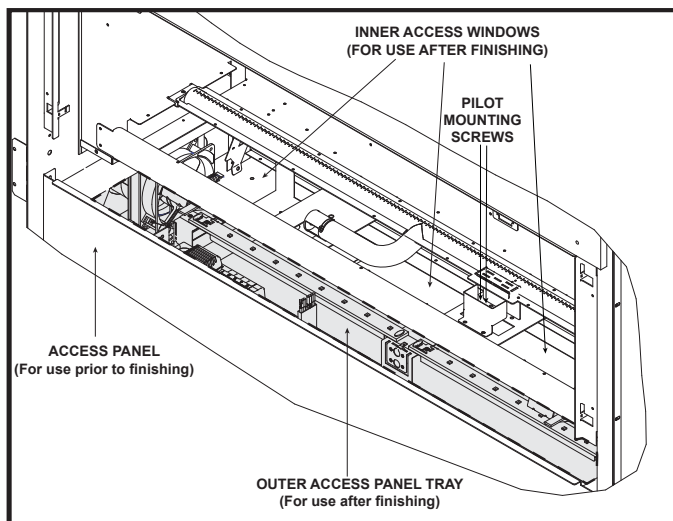
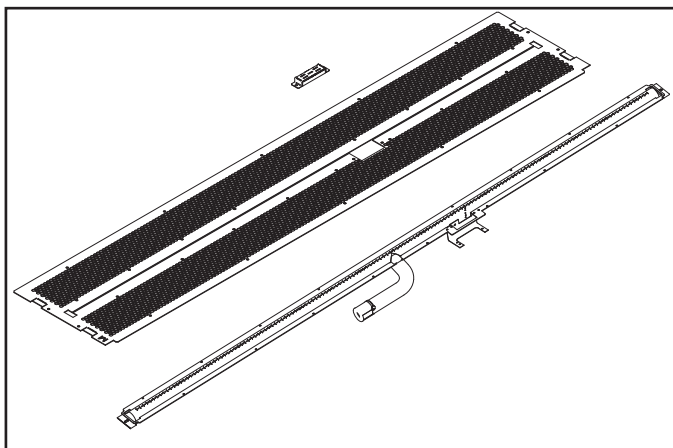

Figure 9.2 Gas and Electrical Access
Figure 9.3. Base Pan with Burner and Pilot Cover
The lower access cover panel is removable if finishing material is not installed. See Figure 9.2.
6. There are three access windows located on the interior of the firebox bottom. See Figure 9.2. Remove screws and plate to access the manual shutoff valve included with this fireplace.
2. Remove the base pan. It is attached with 14 screws to the interior firebox bottom and with 19 screws to the burner assembly. If your appliance is a model that has the glass rock media, you must also remove the pilot shield cover at this time. See Figure 9.2 and Figure 9.3.
3. Remove the two screws that secure the pilot to the burner tube. Remove the two screws that secure the burner to the firebox sides and disengage burner from over orifice. Remove burner. See Figure 9.3.
4. Remove access panel covers or glass windows, along with gaskets. Gaskets may be fragile. Handle with care. See Figure 9.2.